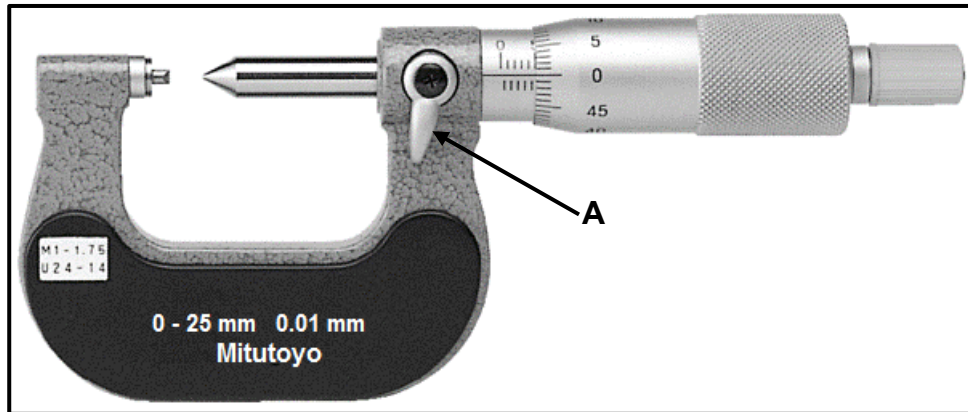

FIGURE 7.1
- 7.1 FIGURE 7.1 below shows a screw thread micrometer. Answer the questions that follow.